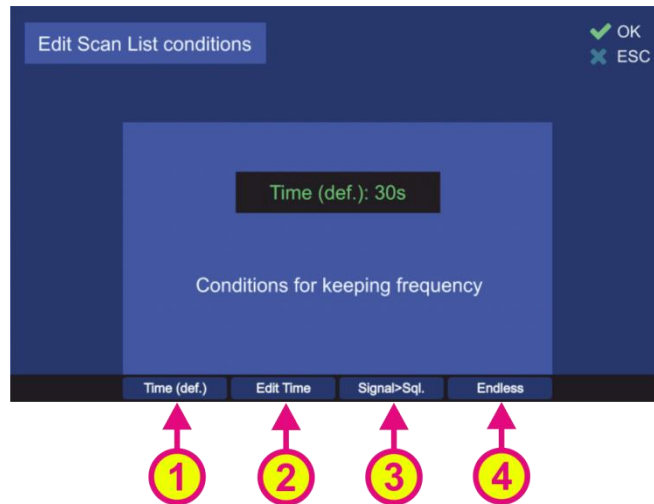

Fig. 57 "Scan List Conditions" dialog
- "Time (def.);" hotkey (s. Fig. 57, position 1) defines the behavior of the "Scan List" algorithm if the active frequency (signal level > squelch level) has been found. If this hotkey is pressed, the default time of 30 seconds will be adopted after confirming this setting with "OK". The scan algorithm will stay for the default time of 30 sec on an active frequency before continuing with scanning of the next frequencies.
- Pressing the hotkey "Edit Time" (s. Fig. 57, position 2) will open a dialog for editing the time of staying on the actively received frequency before continuing with the scan procedure.
- Pressing the hotkey "Signal>Sql." hotkey (s. Fig. 57, position 3) defines the time of staying on the actively received frequency before continuing with the scan procedure. If this setting is confirmed, the scanning procedure will stay on the actively received frequency as long as the signal level is higher than the squelch level.
- If the hotkey "Endless" (s. Fig. 57, position 4) was pressed and confirmed with "OK", the scan algorithm will stay on the actively received frequency as long as the user terminates the scan or skips the current frequency.